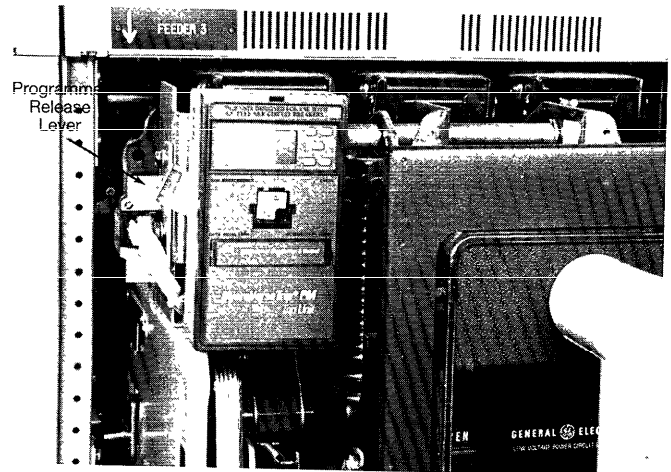

Figure 1. Removing a MicroVersaTrip Plus or MicroVersaTrip PM Trip Unit.
3. On the left or right side of the trip unit, pull the PROGRAMMER RELEASE LEVER out from the trip unit and lift the trip unit out, as shown in Figure 1.